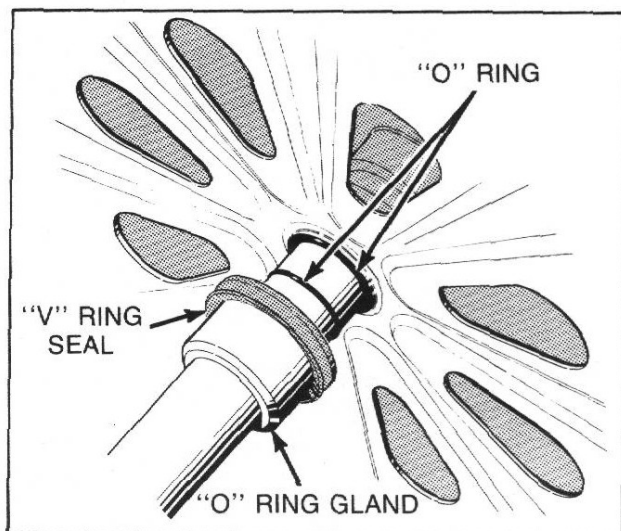

Figure 40
- o. Remove "O" ring gland, "V" ring seal and two "O" rings from cylinder shaft, *Figure 40*.